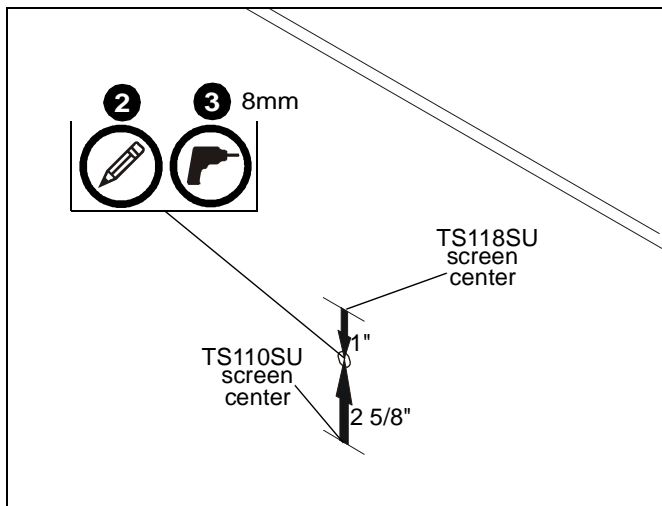

Figure 4
2. Measure 2 5/8" above desired center line if mounting TS110SU or 1" below desired center line if mounting TS118SU and mark a hole at desired mounting location. (See Figure 4)
**IMPORTANT ! :** Use a level to make sure main assembly (H) is level when mounted to the wall!
3. Drill one 8mm hole at location marked in Step 2. (See Figure 4)